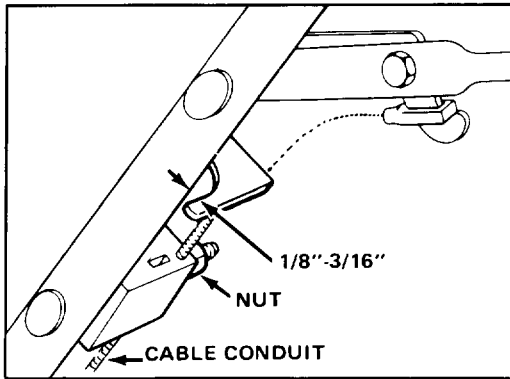

Figure 19
2. CHECK ADJUSTMENT (Fig. 19) Move control bar toward handle until slack in wire is removed. Gap between brake lever and handle must be  $1/8''-3/16''$ . See step 3 for adjustment.
on cable bracket (Fig. 19). Insert  $1/8''-3/16''$  object between brake lever and handle. Pull down on cable conduit until all slack is removed from wire. Then tighten nut.